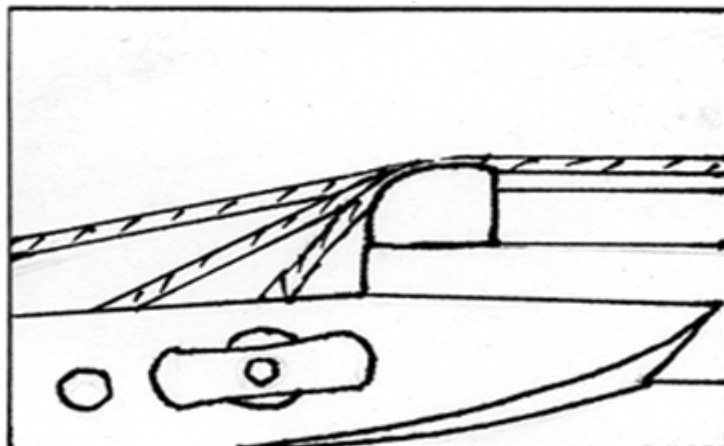

Fig. 13
- b) The grooves are seldom parallel. Every string goes to a different peg at a different angle, so the angle of the groove differs from one edge of the nut to the other (fig. 13, 14).